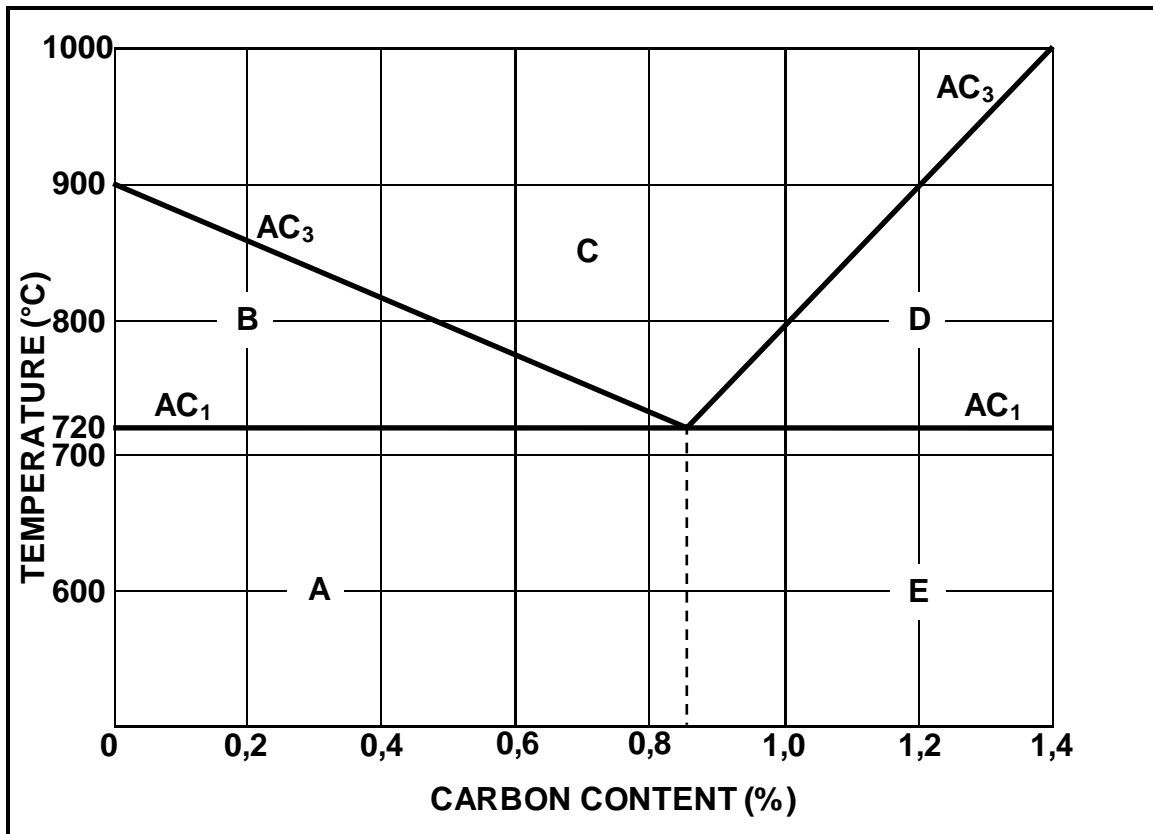

FIGURE 4.1
4.2 FIGURE 4.1 shows a diagram. Answer the questions that follow.
4.2.1 What is the diagram in FIGURE 4.1 above called? (1)